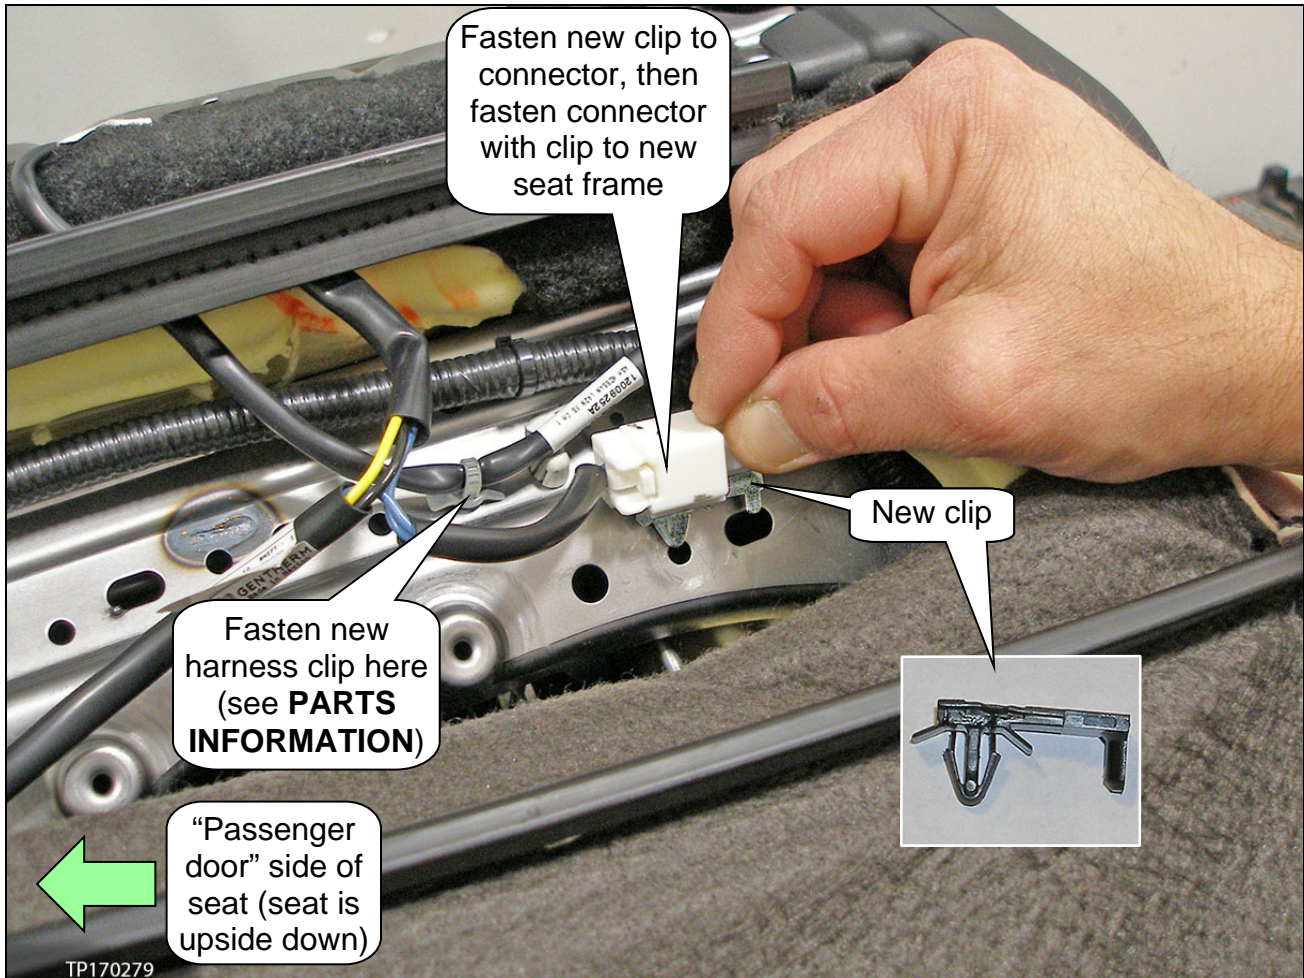

Figure 6
- Use a new clip for the seat cushion heater's electrical connector on the new seat frame assembly (see Figure 6 below).